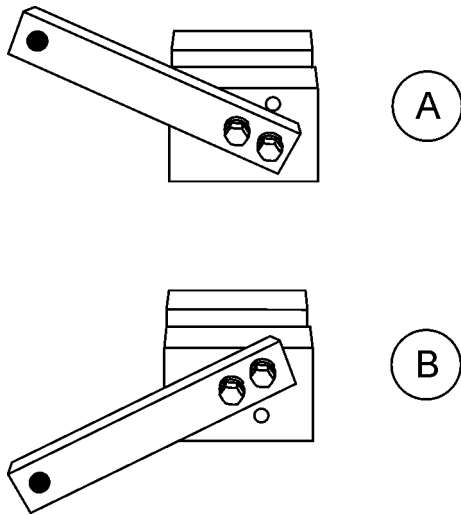

Figure 46. Trowel Arm Adjustment Setup
2. Ensure the fixture arm is in the proper setting (up or down) for your trowel arm rotation as shown in Figure 46.
Arms with **CLOCK-WISE** blade rotation use the fixture arm in the **UP** position (A in Figure 46). Arms with **COUNTER CLOCK-WISE** blade rotation use the fixture with the fixture arm in the **DOWN** position. (B in Figure 46).
1. Unscrew the two (2) t-bolts from the belt guard and remove the lockwashers. (Figure 46).